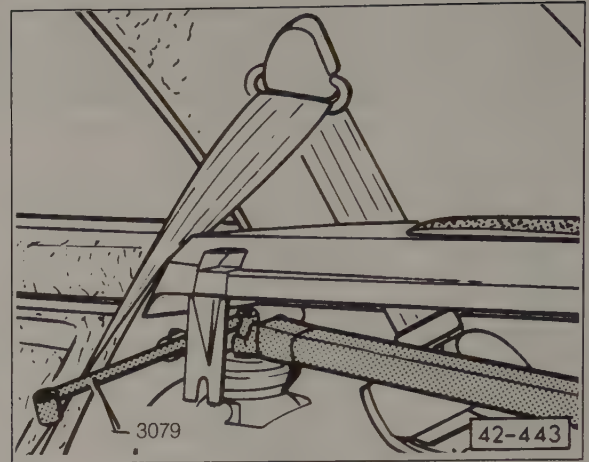

Fig. 6-1. Rear shock absorber mounting nut being removed from inside car using Volkswagen special tool no. 3079 (order no. T03 079 000 42 ZEL).
1. Inside the car, snap off the plastic cap that covers the upper shock absorber mount. See Fig. 6-1. Loosen and remove the nut and the dished washer beneath the nut.